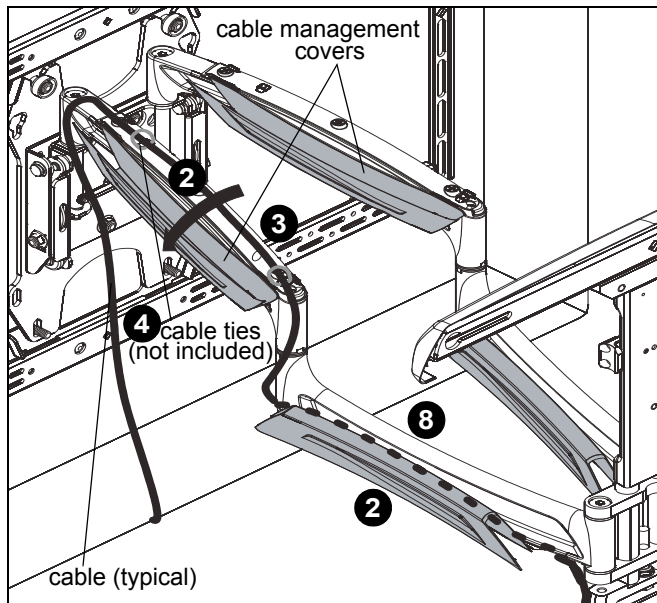

Figure 19
2. Open cable management covers on upper and lower swing arms. (See Figure 19)
3. Route cables on top of upper arm. (See Figure 19)
4. (Optional) Use cable ties (not included) to secure cables to upper arms by threading ties around cable and through cable tie holes on arms. (See Figure 19)
5. Close upper cable management cover. (See Figure 19)
6. Route cables under lower portion of swing arm. (See Figure 19)
7. (Optional) Use cable ties (not included) to secure cables to lower arms by threading ties around cable and through cable tie holes on arms. (See Figure 19)
8. Close lower cable management cover. (See Figure 19)